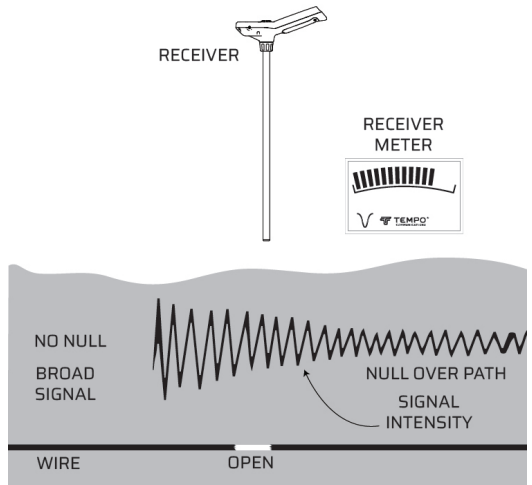

Figure 3. Locating End of Broken Wire
- The end of a cut or broken wire can be located by following the path until the null becomes less distinct or disappears and gives way to a “hot spot”. Beyond the “hot spot”, no null can be detected. Back up until the null is detected, and this will be the approximate end of the broken wire. (Refer to Figure 3.)